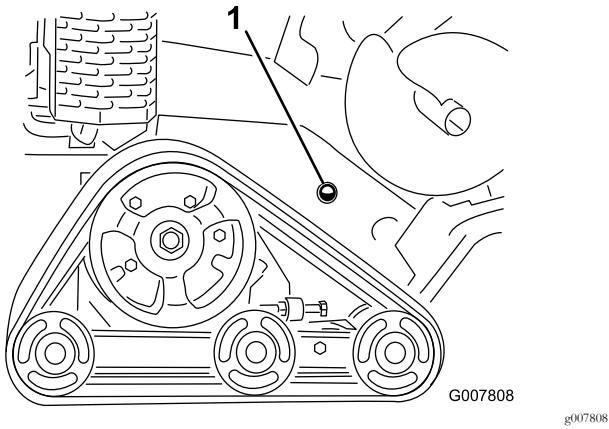

Figure 7
2. Check the hydraulic fluid level in the site glass at the front of the right panel (Figure 7).
- C. Add the specified hydraulic fluid into the filler neck until the fluid level covers half the site glass (Figure 7).